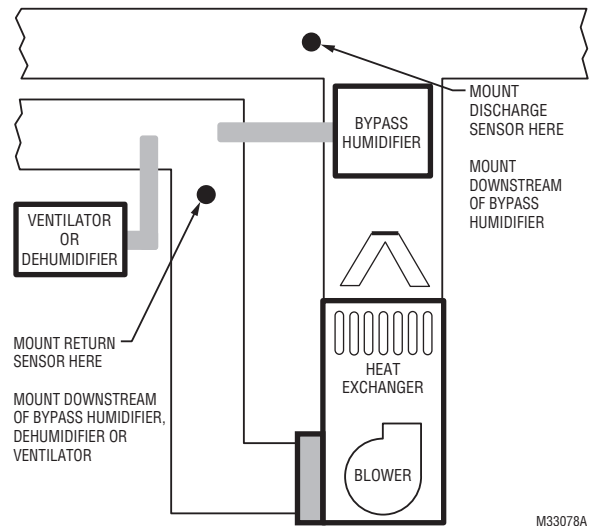

Fig. 13.
4. If a Bypass Humidifier is installed, mount the Discharge Air Temperature Sensor downstream of the Bypass Humidifier. See Fig. 13–14.